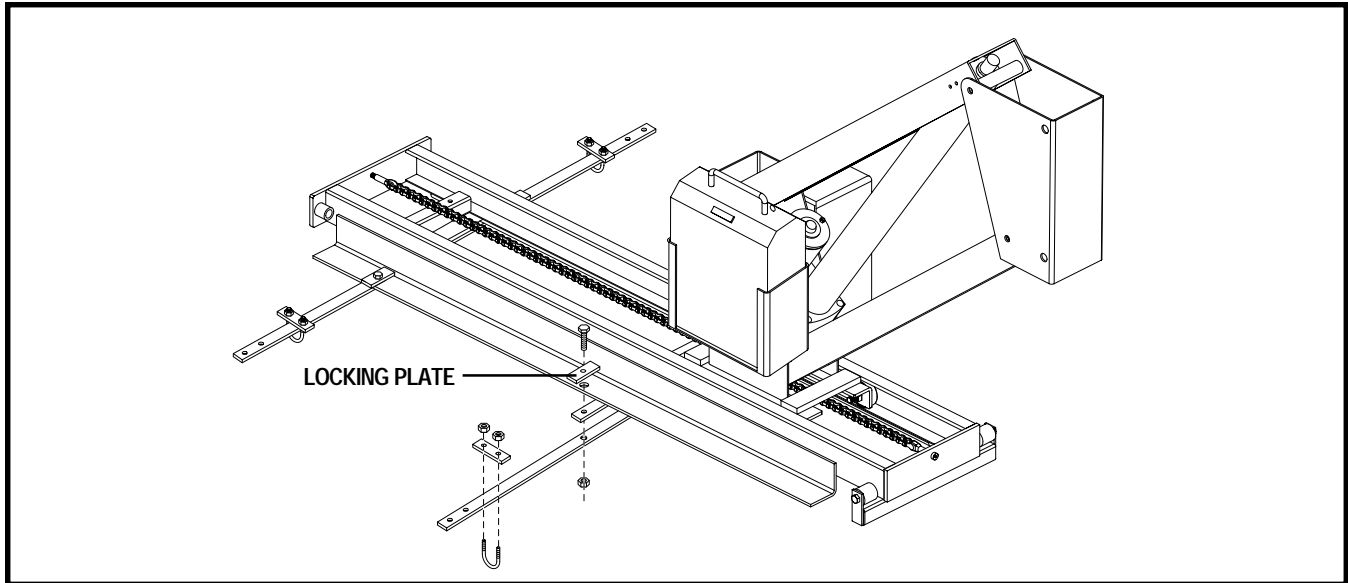

Figure 2. Backpacker Installation
- Carefully slide the Backpacker into the rear of the van and center it over the threaded holes in the floor plates. See figure 2. Make sure the mid-riser bar is still properly aligned.
- Place a locking plate over each of the threaded holes in the floor plate and secure with the supplied bolts. Screw the bolts into the threaded holes, but do not fully tighten the hardware at this time. See figure 2.